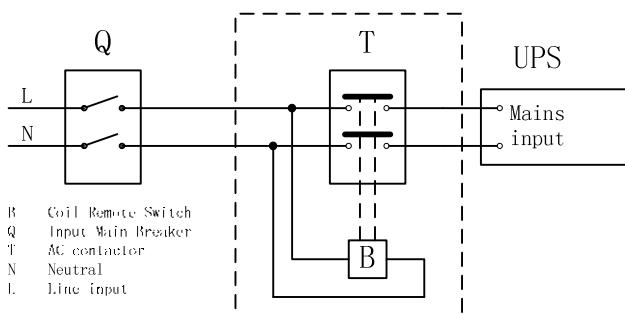

Fig.4-6 Typical external isolating device installation
- 1) It is necessary install an external isolating device against current backfeed protection in accord to rules IEC/EN 62040-2, between Mains input and UPS (see Fig.4-6). After the device is installed, it must add a warning label with the following wording or the equivalent on the external AC contactor: RISK OF VOLTAGE BACKFEED. Isolate the UPS before operating on this circuit, then check for hazardous voltage between all terminals.